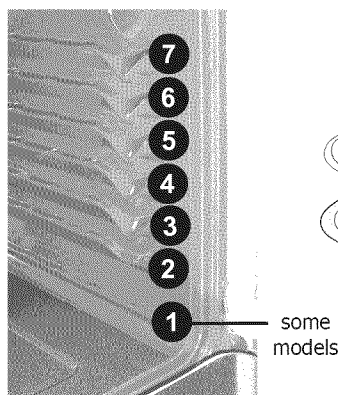

Fig. 1
Use the broil feature to cook meats that require direct exposure to radiant heat for optimum browning results. When broiling always remember to arrange the oven racks while oven is still cool. Position the rack as suggested in the **broil settings table** (See Figs. 1 & 3).
6. Place the broiler pan and insert on the oven rack (See Figs. 1 & 2).